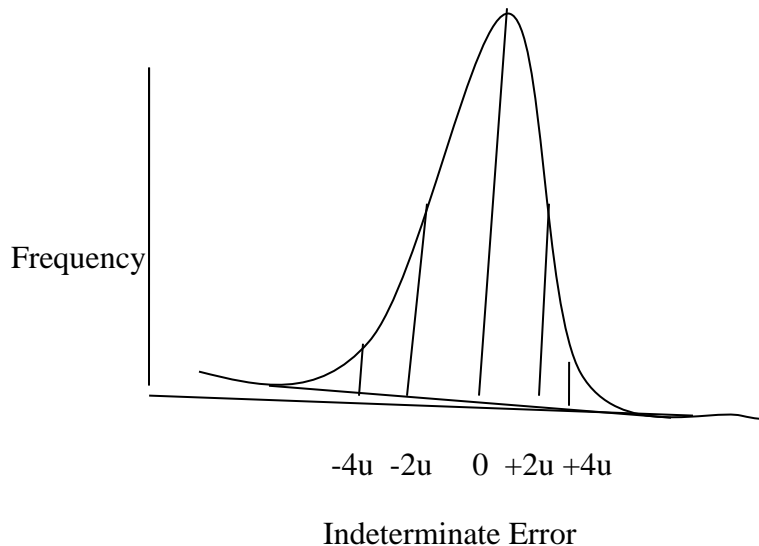

Figure 2.1 Frequency of Error vs. Indeterminate Error
- Figure 2.1 can be described mathematically as follow